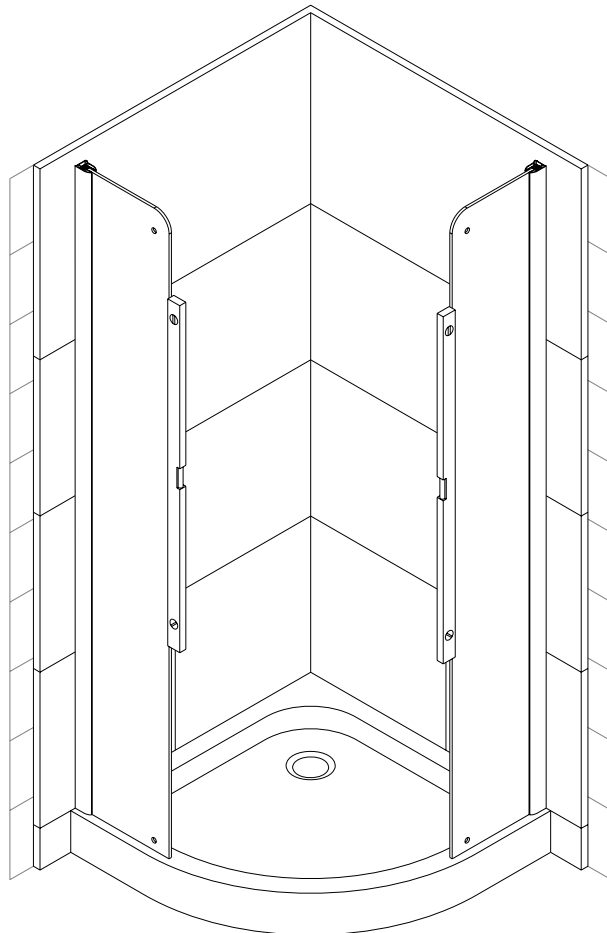

Fig 3
4. Repeat step 1-3 to install another side wall profile and second stationary Glass Panel. Check, if the stationary glass panels installed vertical in both directions (fig 3).